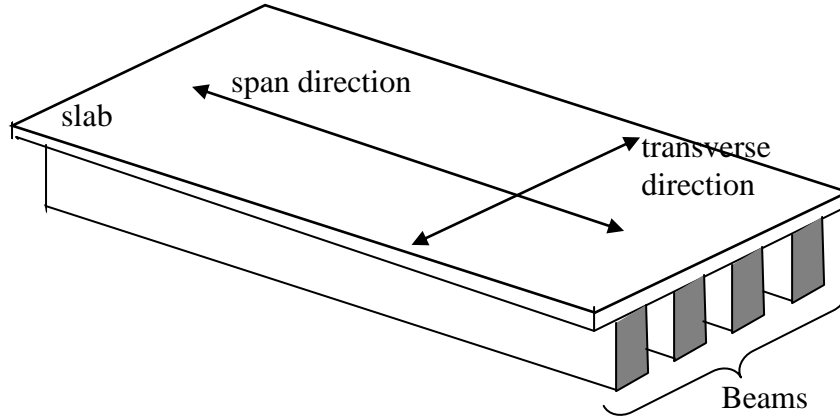

Figure 5
5. (a) Figure 5 shows a simplified sketch of a bridge deck. Explain the reason why a bridge deck as shown in Figure 5 will be subjected to both bending and torsion under general loading condition. Use suitable sketches in your explanation.